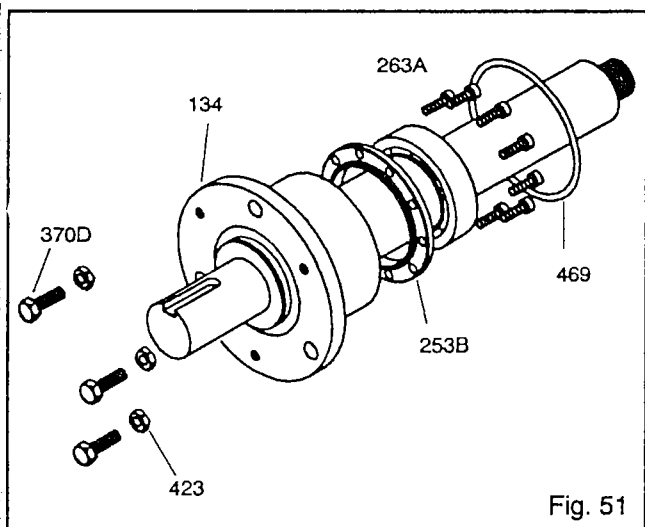

Fig. 51
3. Remove jack screws (370D) with nuts (423) (Fig. 51).
4. Remove bearing housing O-ring (469).
5. Remove clamp ring screws (236A). Separate clamp ring (253B) from bearing housing (134).